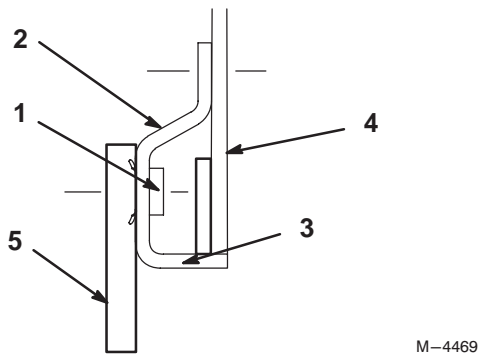

**Figure 3**
- Attach the mounting brackets (with retainer nuts assembled) into holes in wiper (Fig. 3) using the flat washers and 5/16-18 x 3/4" (19 mm) screws. Place the flat washers on the screws and insert the screws through the wiper into the retainer nuts. Align the brackets vertical to the wiper and tighten the screws (Fig. 5).